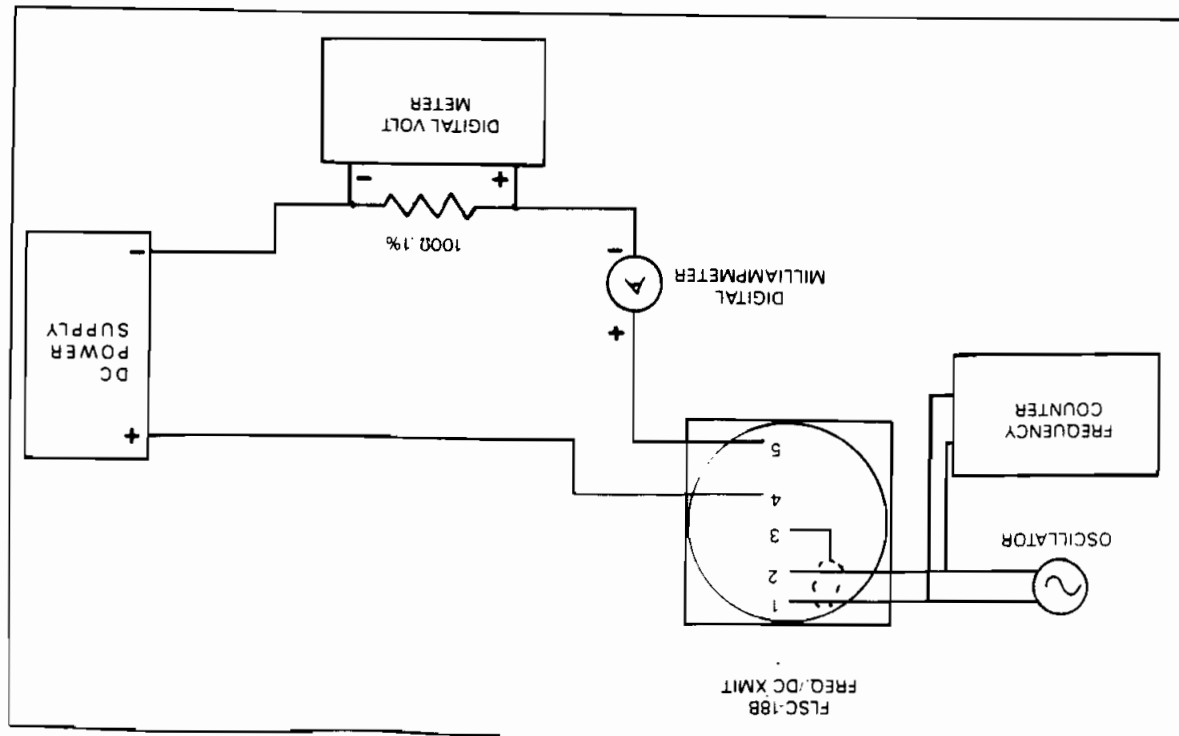

Figure 4-1. Calibration Set-up
The external oscillator is used to supply a test frequency. In this method, the external oscillator is connected to the signal input terminals as shown in Figure 4-1. The oscillator's output frequency is set to equal F (MAX) as indicated on the frequency counter.
2. Connect a digital milliammeter or digital voltmeter as shown in Figure 4-1.
5. Inject the Test Frequency equal to F MAX while adjusting SPAN for current equal to desired Full Scale (20 mA). See test setup shown in Figure 4-1.